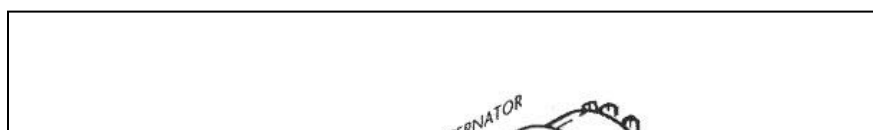

Figure 7.1 Early GM Alternator – External Regulator
7.1 Early GM Alternator - External Regulator, See Figure 7.1